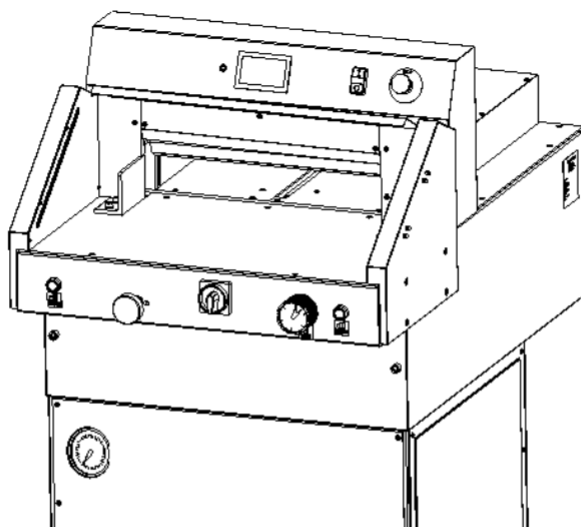

Figure 6a Cutter without side tables
- completely assembled and ready for use (Fig. 6a)